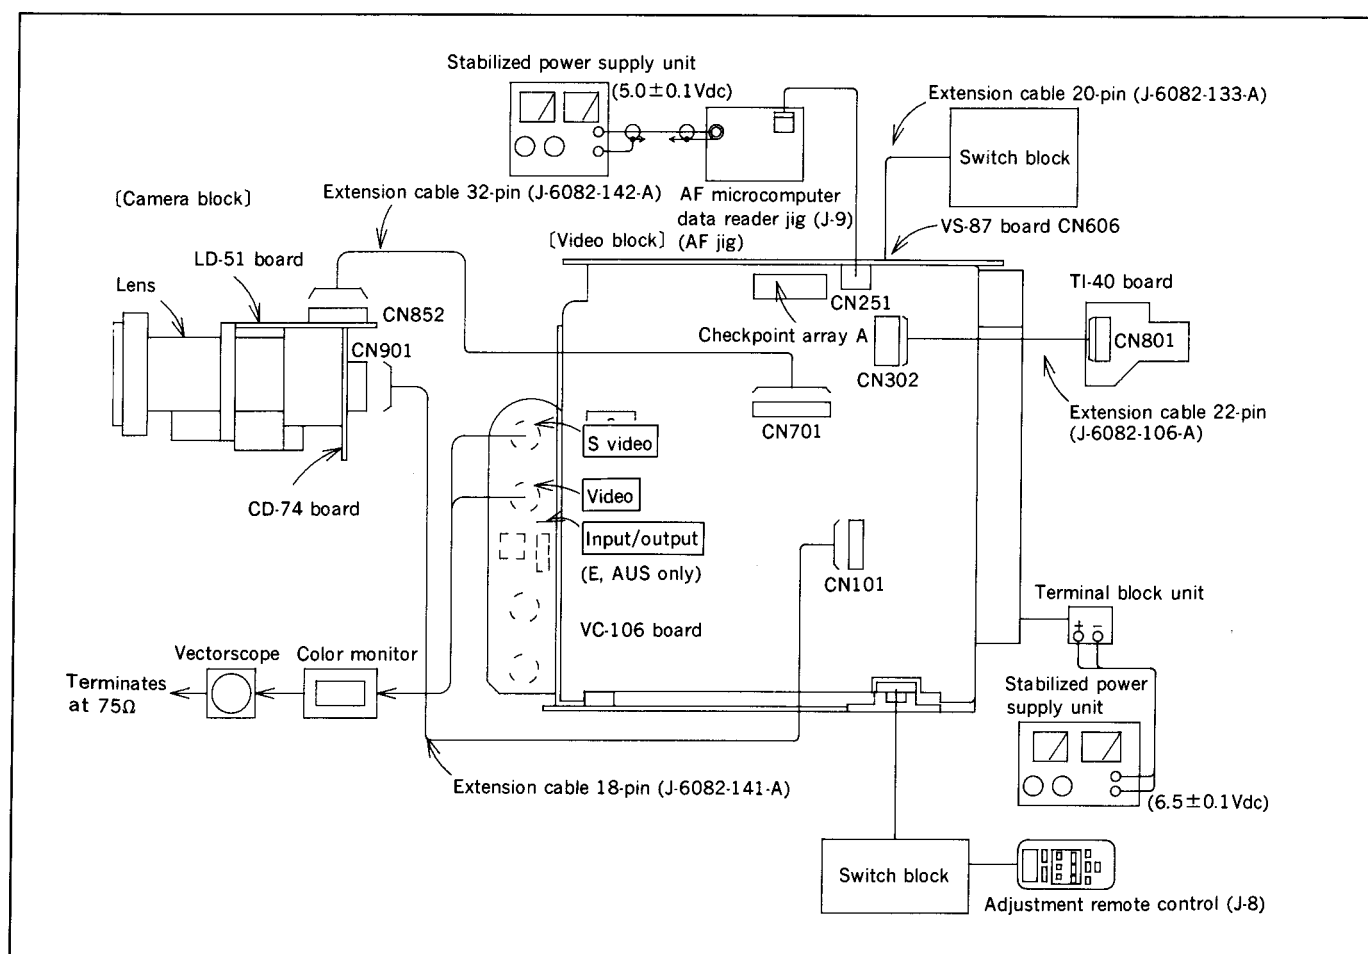

Fig. 9-3.
- 1) With the extension cables, connect between the camera block and the video block and connect other equipment as shown in Fig. 9-3.